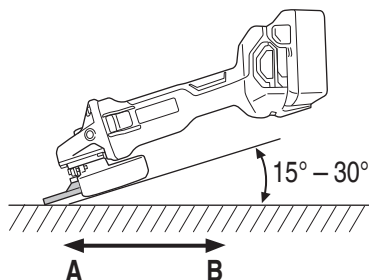

Fig. 12
- Grind only with the wheel's edge by lifting the grinder 15° to 30° , as shown in Fig. 12.
- When using a new depressed center wheel in direction A (Fig. 12), the wheel edge may cut into the workpiece. In this case, grind in direction B (Fig. 12). Once the wheel edge is worn, the workpiece can be ground in both directions.